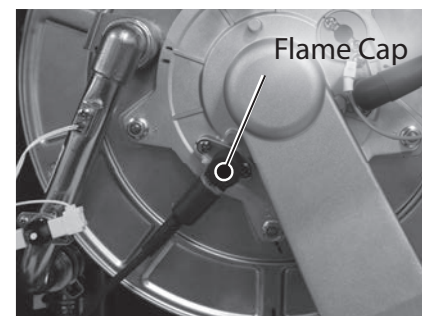

Figure 41 - Remove flame sensor cap
**7** Locate the cap on flame sensor wire as shown in Figure 41. Pull cap from flame sensor in burner door and remove